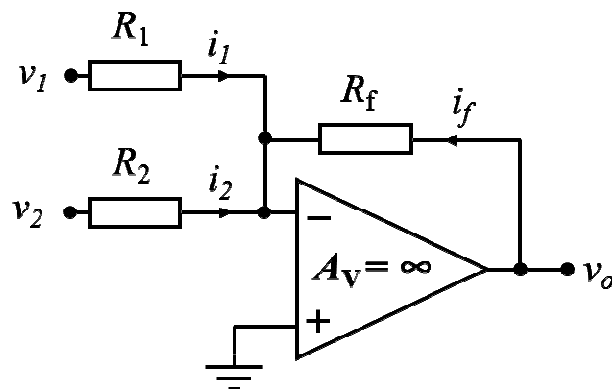

Figure 6.2
- d. For the circuit shown in figure 6.2 write an expression for  $v_o$  in terms of the input voltages ( $v_1$  and  $v_2$ ) and the resistances ( $R_1$ ,  $R_2$  and  $R_f$ ) only. You may assume  $A_v \rightarrow \infty$  and  $v^- \rightarrow$  a “virtual earth” and therefore 0. (Hint: it might be useful to use Kirchoff’s current law in relation to the node connected to the operational amplifier’s negative input). (6)
- e. In the circuit shown in figure 6.2 resistor  $R_2$  is  $20\text{k}\Omega$  and input voltages are  $v_1 = \sin(\omega t)$  Volts and  $v_2 = 2$  Volts. An output voltage of  $v_o = -8 - 6 \sin(\omega t)$  Volts is required. Choose suitable values for  $R_1$  and  $R_f$ . (4)